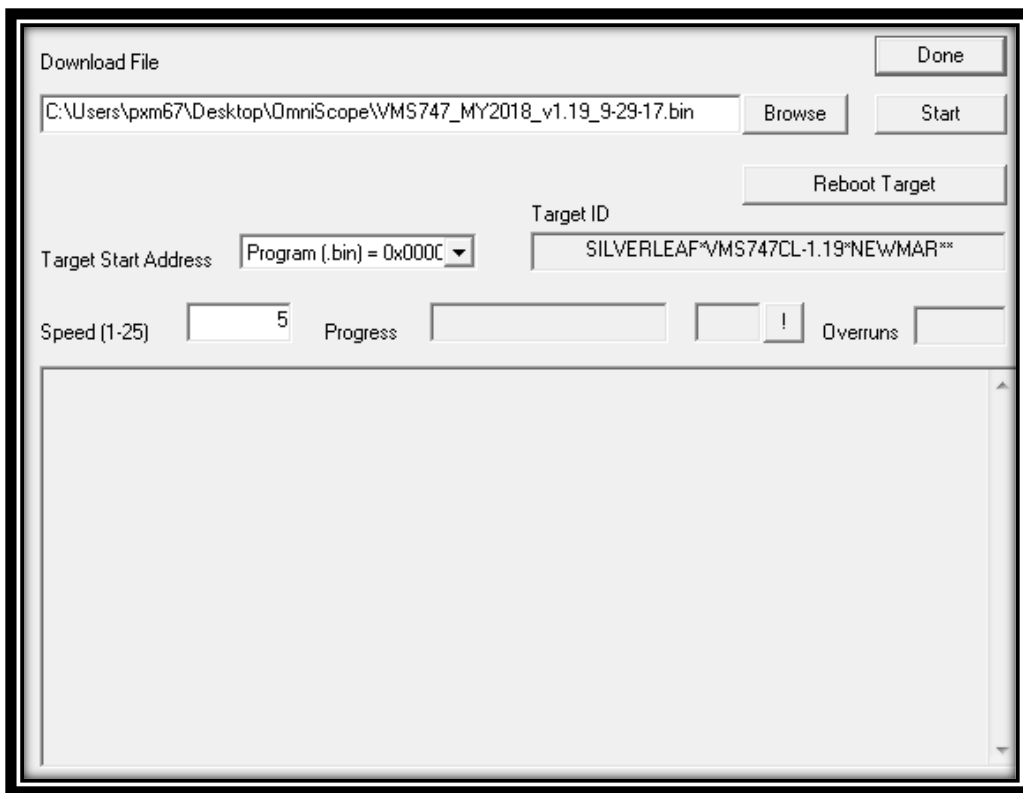

FIG. 7-1
6. Once speed and file are set, press 'Start' button to begin download. Refer to FIG. 7-1.